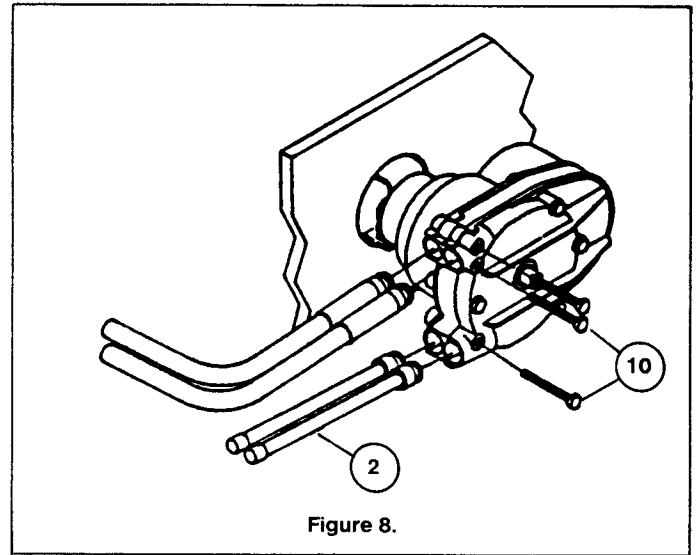

Figure 8.
**STEP 2.** Feed the cable ends into the UPPER entry spigots, keeping the conduit fittings aligned, until they contact the internal gears. Then turn the steering wheel to draw the cables fully into the helm. Continue turning the wheel until both conduit end fittings are fully inserted into the entry spigots. See Figure 8.
**STEP 3.** Insert two bolts (item 10) into the helm and tighten fully, making sure that the bolts are in the retaining grooves of both cables fittings. See Figure 8.
**STEP 4.** Feed the Spent Travel Tubes (item 2) over the exposed cable ends and insert bolt (item 10) into the helm, tighten fully. See Figure 8.